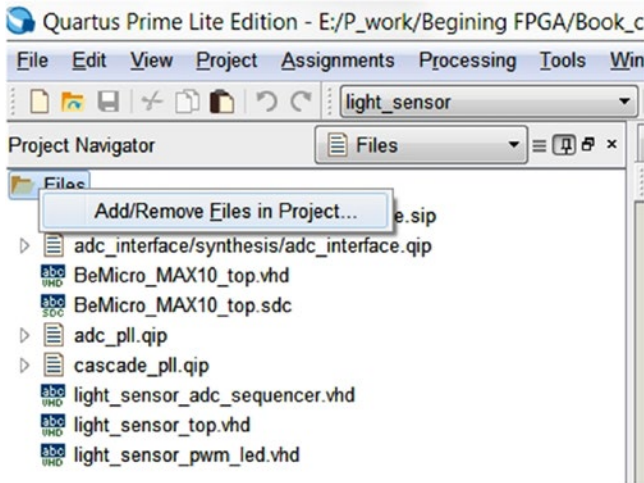

Figure 12-35. Add/Remove Files in Project
Step 1: Right-click the File icon (Figure 12-35) and click **Add/Remove Files in Project...** or, from the Project menu, select **Add/Remove Files in Project**.